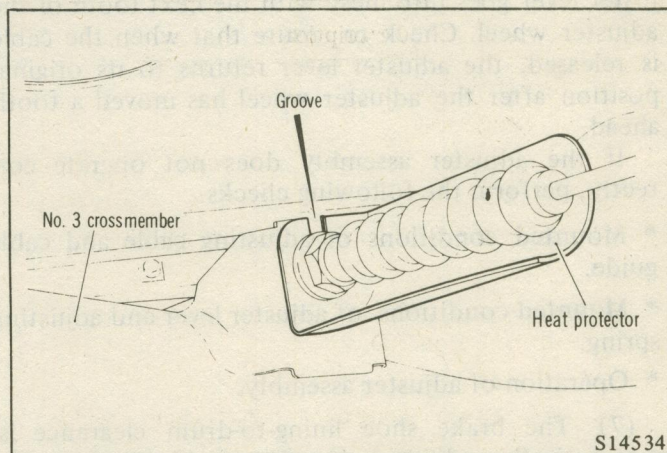

Fig. 37 Installing the Heat Protector
(2) Using turnbuckle, adjust cable length, so the balancer is parallel with the center line of the vehicle and the brake shoes does not drag.
(3) When the cable is installed, make certain that the cable is not twisted.
(4) To install heat protector to the boot on RH rear cable, align the groove on the heat protector with that on the No. 3 crossmember bracket. (Fig. 37)